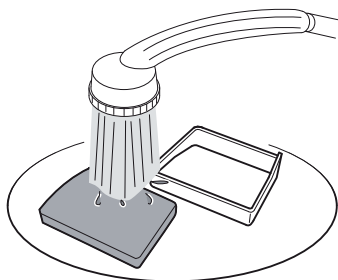

Fig. 29
6. Thoroughly rinse out the two parts by hand with clear cold water (Fig. 29).